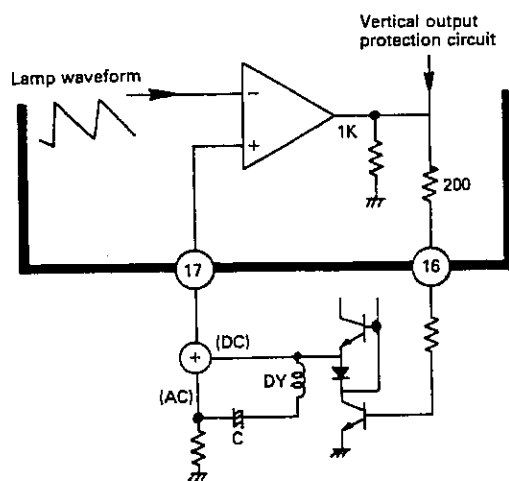

Figure 28.
Fig. 28 shows the vertical output circuit. The lamp waveform signal is amplified in the amplifier (about 45 dB), the output of which is sent to pin ⑮. This signal output is enabled with the current consumption as low as about 15 mA, to meet the operation of SRPP circuit. AC and DC components of the output signal are made together to be fed back to pin ⑮.
If the power supply voltage (at pin ⑮) of the IC goes up too high due to something abnormal, the vertical protection circuit works to prevent the voltage at pin ⑮ from lowering down excessively, so that the output capacitor ("C" in Fig. 28) is protected against damages by the higher voltage.